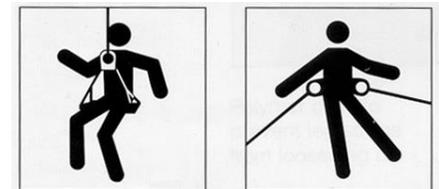

Figure 8
- This equipment must only be used for the specific purpose for which it is designed and intended (Figure 8).
- Attach only connecting devices i.e. snap hook/ carabiner meeting standards/regulations for intended use for positioning and suspension to belt D-rings and Suspension Bridge (see figure 8).
- As outlined by OSHA 1926.502 (e)(2) positioning devices shall be secured to an anchorage capable of supporting at least twice the potential impact load of an employee's fall or 3,000 lbf. (13.3 kN), whichever is greater versus fall arrest anchor points which must support a minimum of 5,000 lbf. (22.2 kN) per attached worker and be independent of worker support.